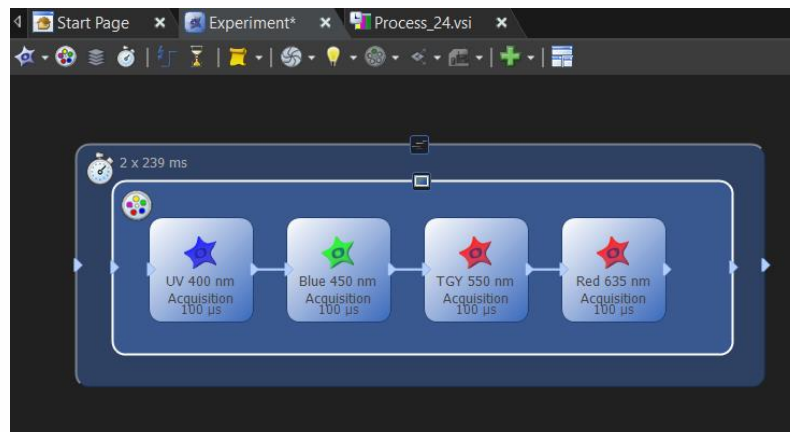

Figure 16: An example of a multi-channel time-lapse protocol in 'Experiment Manager'
- The exact experimental protocol depends on individual setups, but multi-channel and time-lapse LED illumination options are possible (see Figure 16).